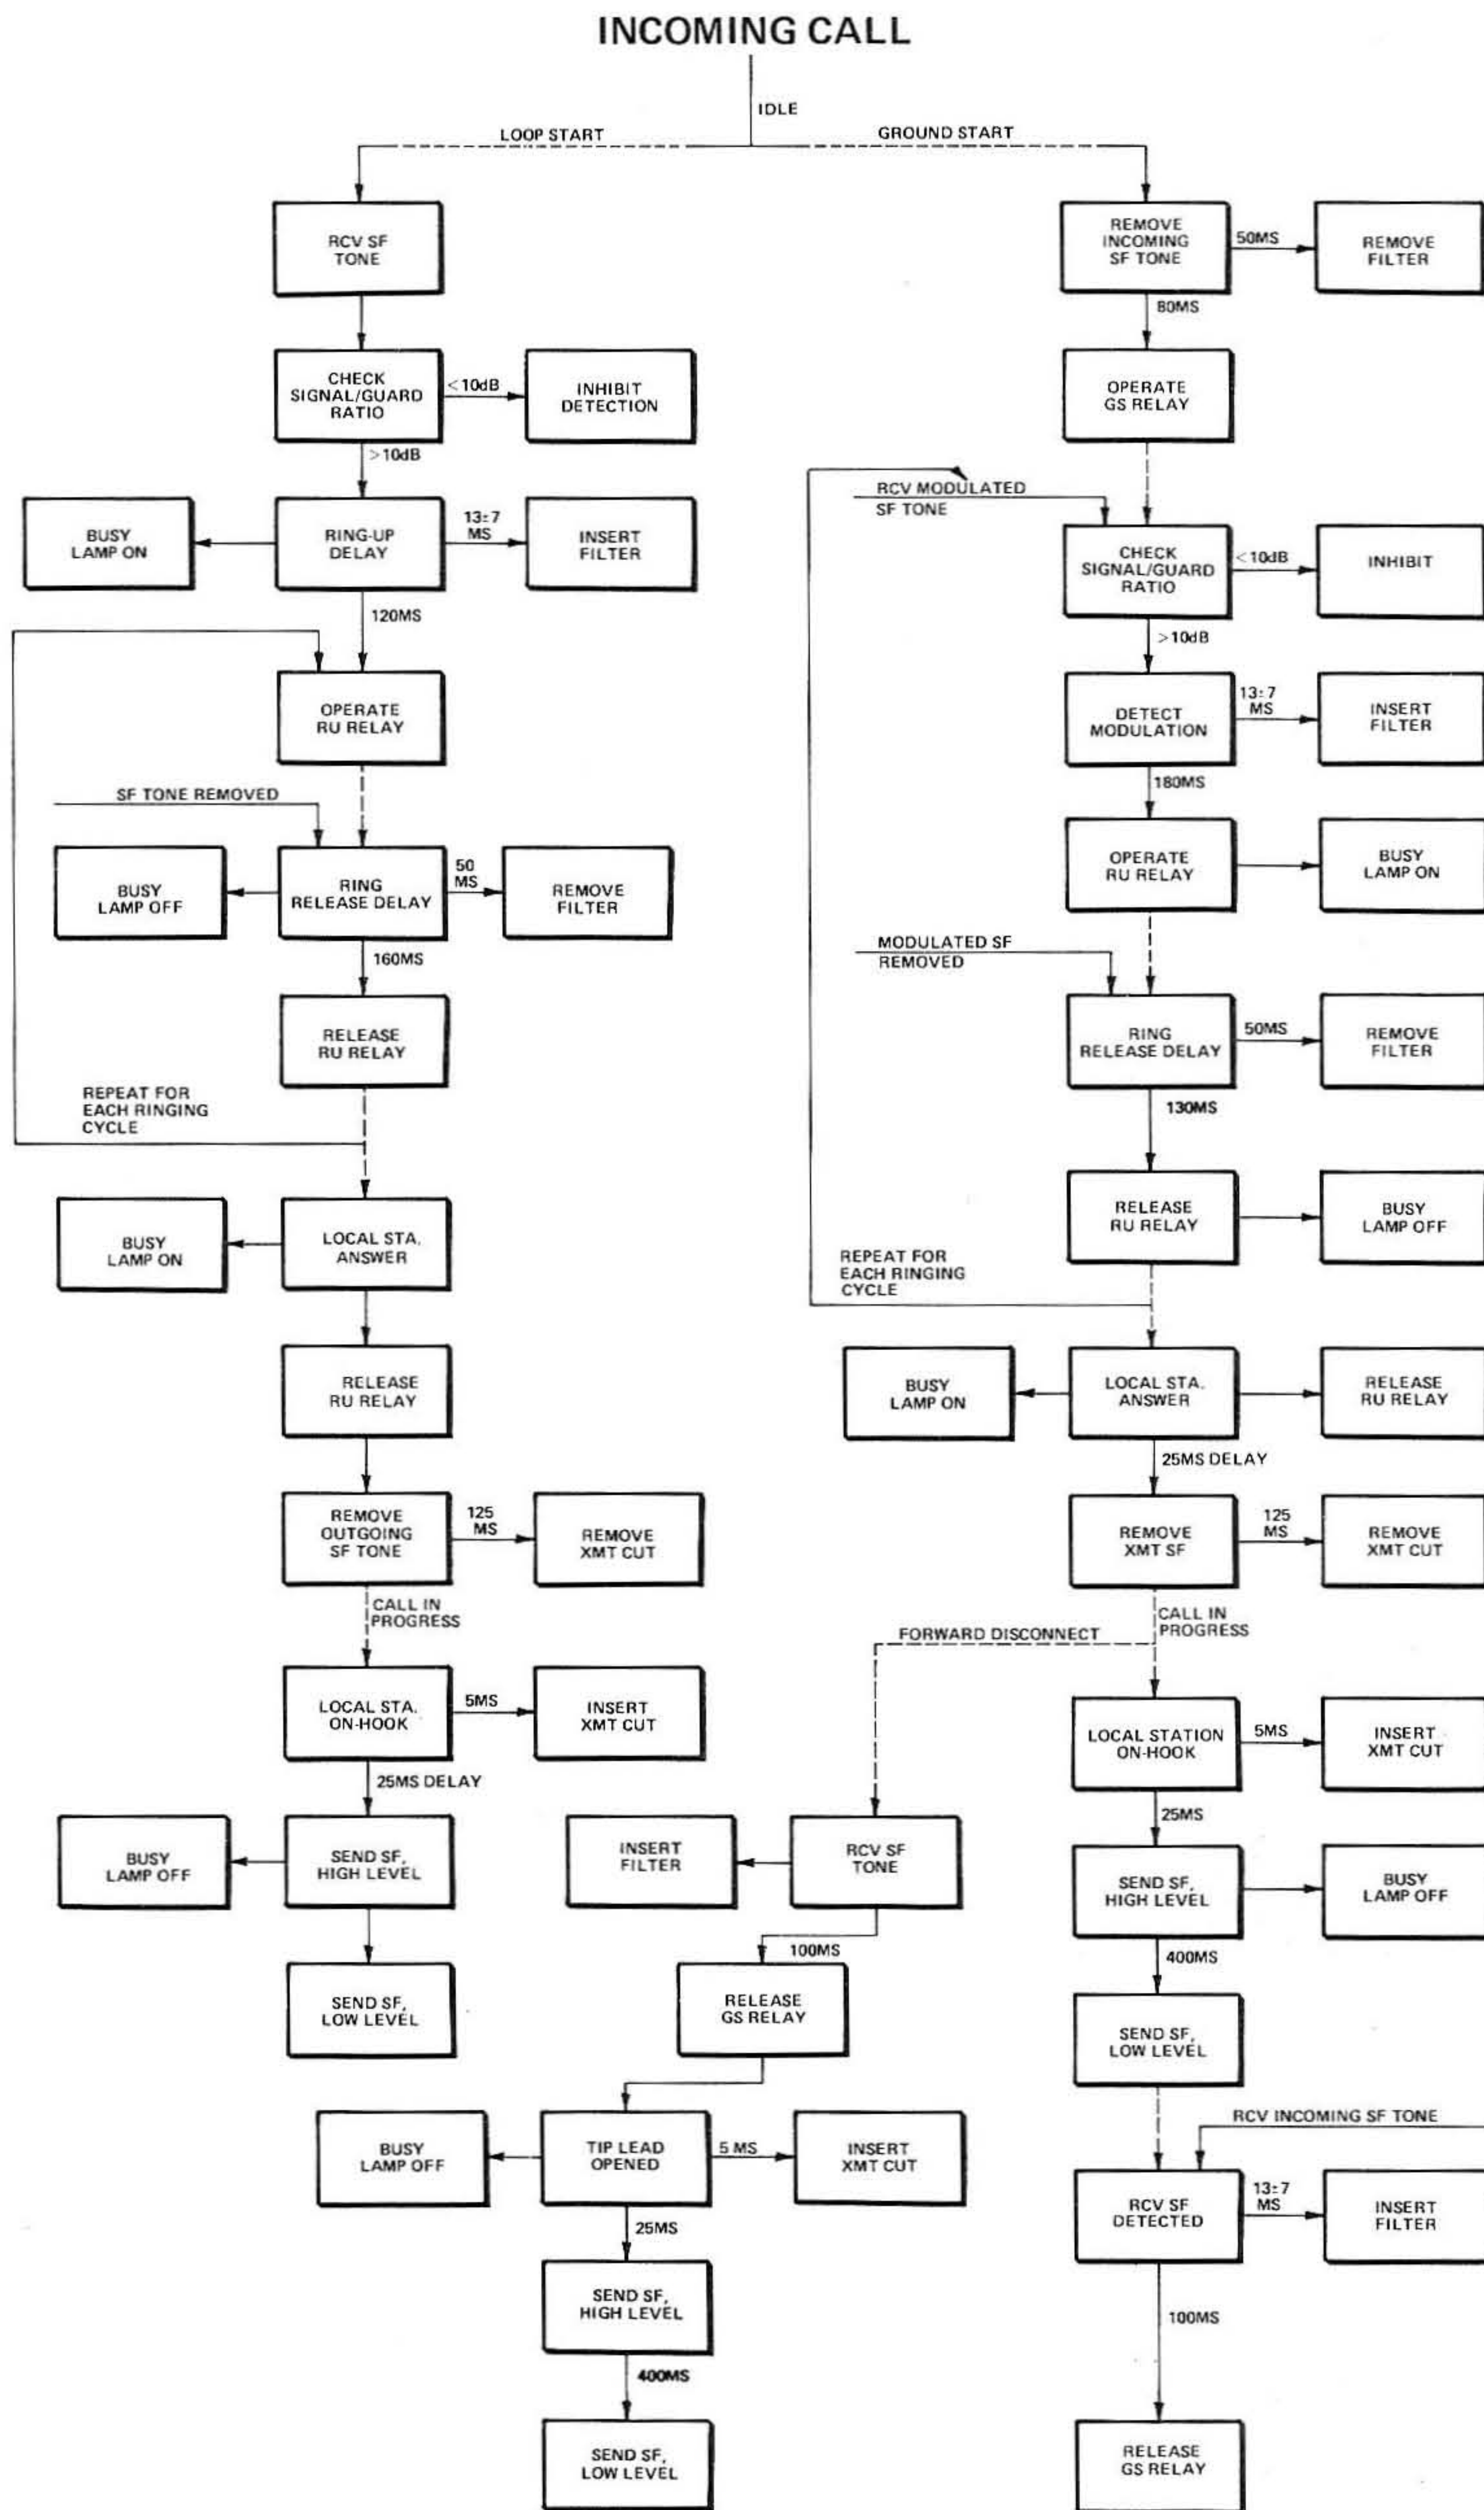

figure 4. Function sequence chart, incoming call
4.01 To provide the clearest possible understanding of the operation of the 6923 2Wire FXS SF Signaling Set module, sequence charts (figures 4 and 5) that illustrate sequential operation of the module on incoming and outgoing calls are presented in lieu of a more conventional circuit description. Horizontal paths identify events occurring simultaneously, and vertical paths denote sequential events. Dotted lines indicate elapsed time. These charts may be used to determine whether a module is performing normally by observing the module's response and comparing it to that shown in the chart. Reference to the 6923 functional block diagram (section 5 of this Practice) may aid in understanding the sequence charts.